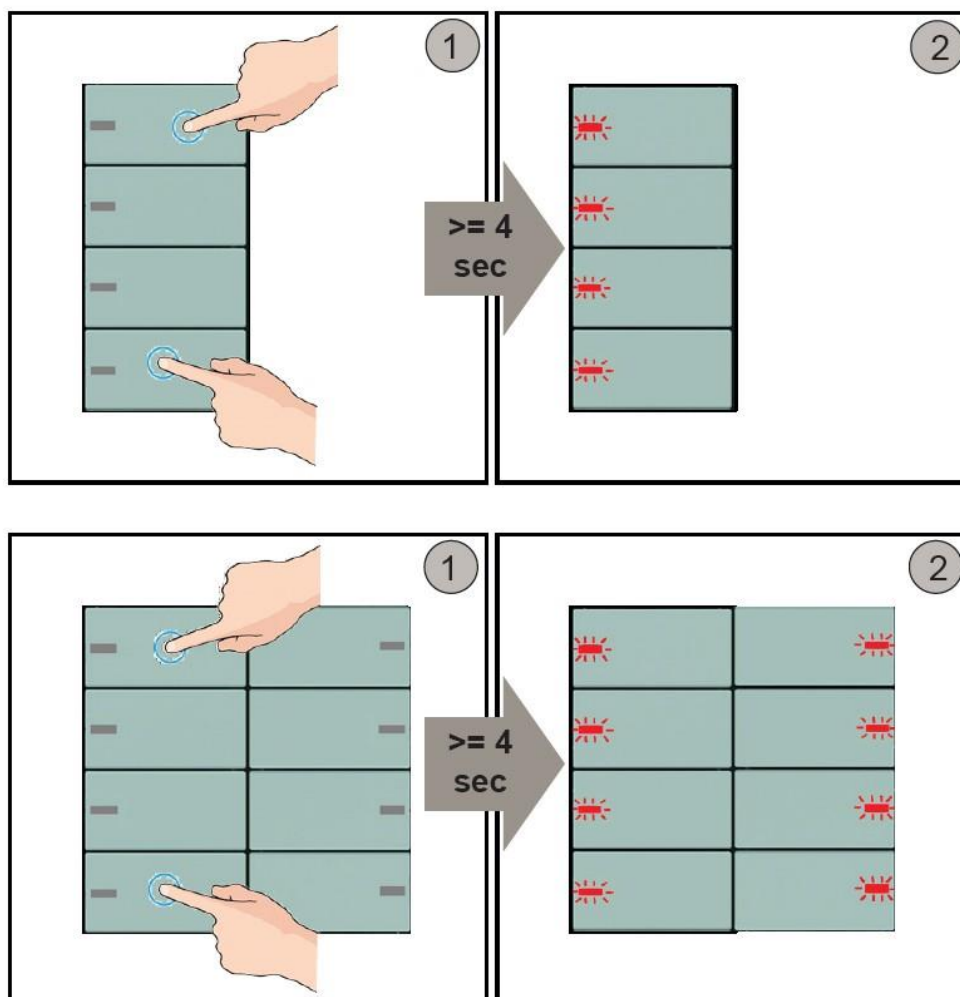

Figure 3 - Device application programming
- switch the device operation to programming mode by pressing simultaneously, for at least 4 seconds, the first and fourth buttons in the 4-key configuration or the first and fourth buttons on the left side for the 8-key configuration (see step 1 in Figure 3) ;
- releasing the buttons, all the LEDs flash red (step 2 in Figure 3); the device is in programming mode;
To reset the device, keep the same buttons combination for entering the programming mode pressed, for at least 10 seconds (Figure 3). All the LEDs start blinking, then they all switch off: the reset was carried out. Now you need to address and configure again the device via ETS.